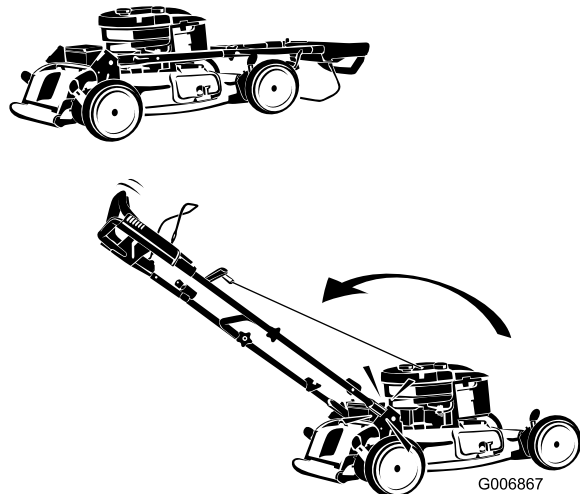

Figure 6
3. Rotate the handle rearward (as shown) until it clicks into place (Figure 6).